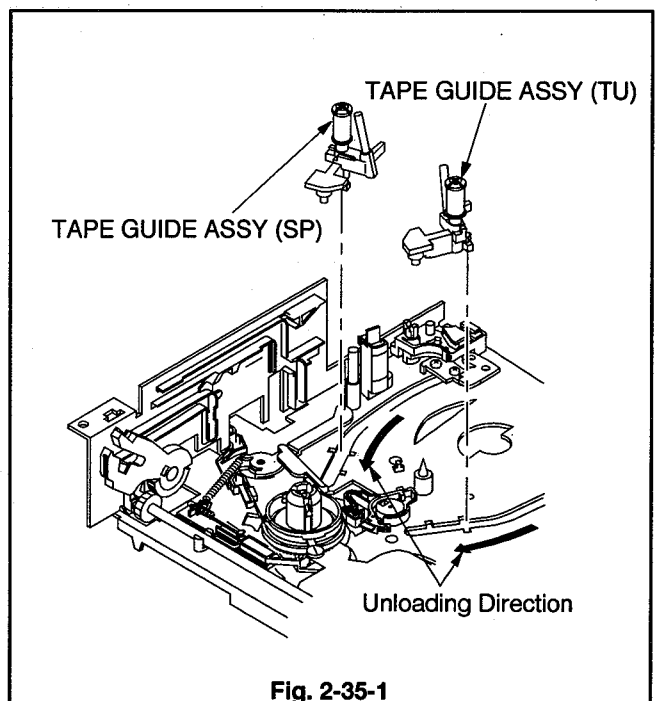

Fig. 2-35-1
- 1 Move the TAPE GUIDE ASSY (SP) shown in Fig. 2-35-1 fully to the unloading position to remove it.
- 2 Move the TAPE GUIDE ASSY (TU) shown in Fig. 2-35-1 fully to the unloading position to remove it.
- 2 Install the TAPE GUIDE ASSY (TU) shown in Fig. 2-35-1.
- 3 Install the TAPE GUIDE ASSY (SP) shown in Fig. 2-35-1.